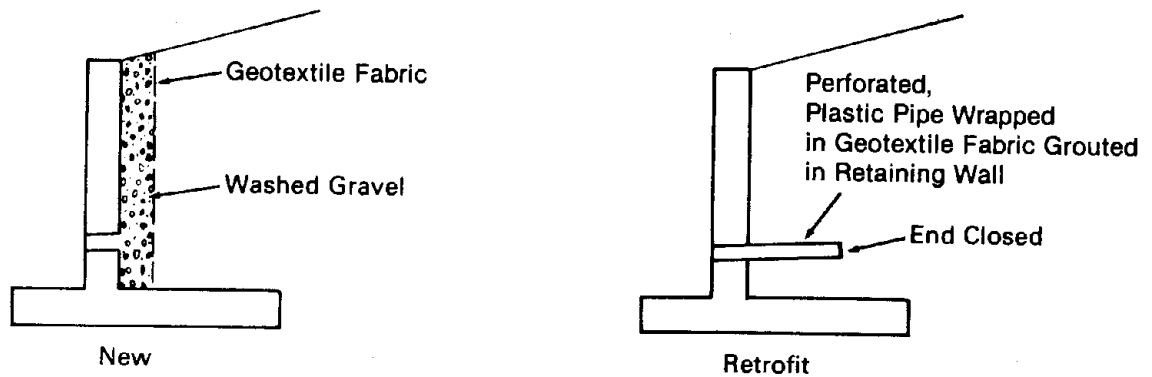

Figure 15. Filtration material for weepholes.
- c. Provide appropriate filtration materials for weepholes in structures (figure 15).